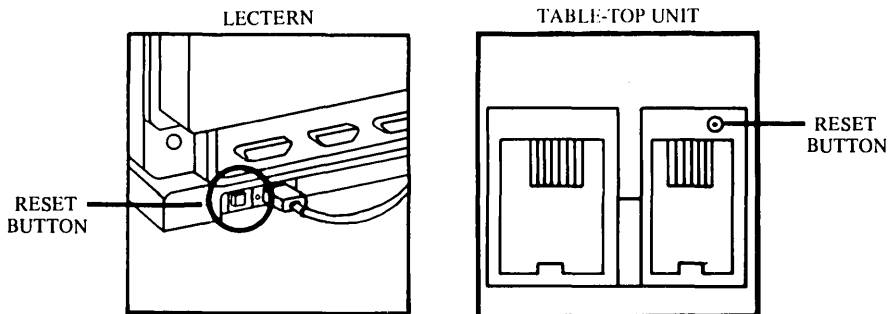

Figure 3-2. Reset Buttons
5. Press the RESET button at the back of your lectern or table-top drive unit (shown in figure 3-2).